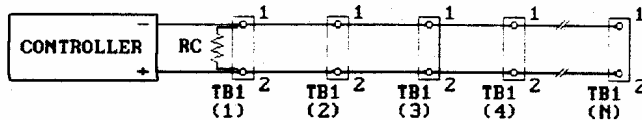

Figure 3-6. Controlling Several 2Zs Connected in Parallel
- a. Connect each unit as shown in Figure 3-6.